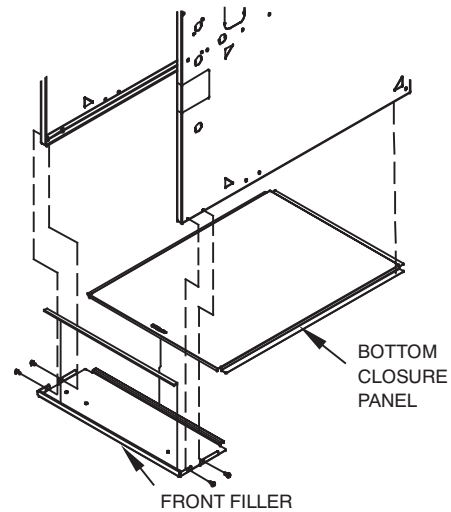

Fig. 6 – Removing Bottom Closure Panel
2. Remove bottom closure panels from both furnaces. (See Fig. 6.)